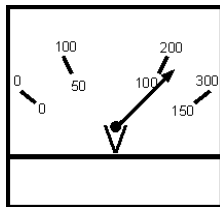
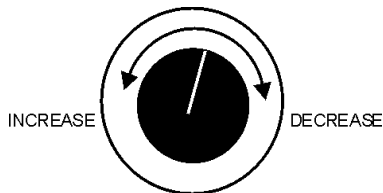

Figure 54. Voltage Meter (Volts)
Figure 55. Voltage Adjust Control Knob
12. The generator's voltage meter (Figure 54) displays the 120 VAC in **VOLTS**. If the voltage is not within the specified frequency tolerance, use the voltage adjustment control knob (Figure 55) to increase or decrease the desired voltage.